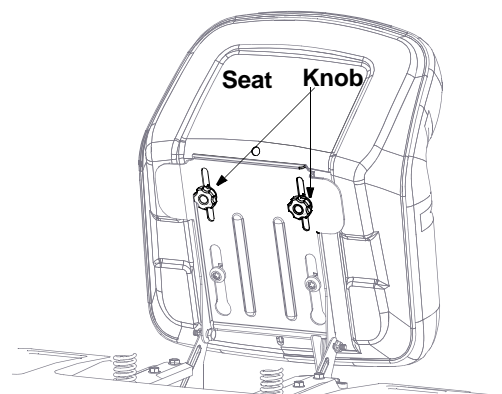

Figure 6
1. Flip the seat up as shown in Figure 6.
2. Loosen the two seat adjustment knobs located under the seat. See Figure 6.